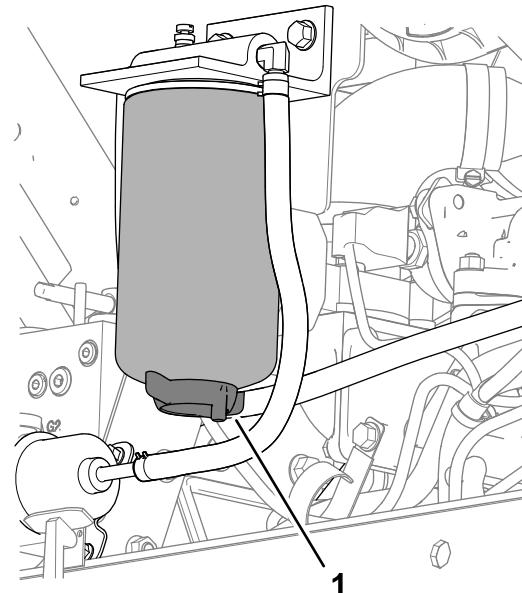

Figure 117
3. Place a drain pan under the fuel-water separator filter (Figure 117).